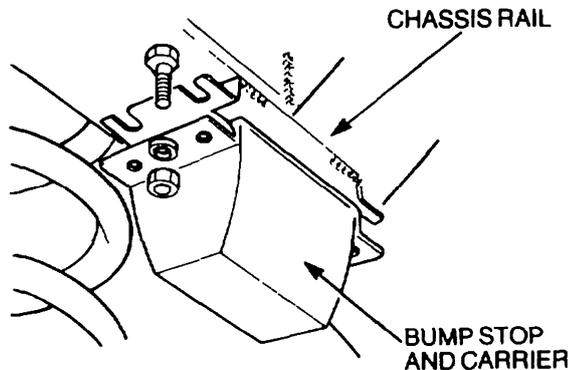

Figure 145 Bump Stop Removal
- a. Remove the two bolts, nuts and lock washers, securing the bump stop and carrier to the chassis rail (Figure 145). Discard the lock washers.